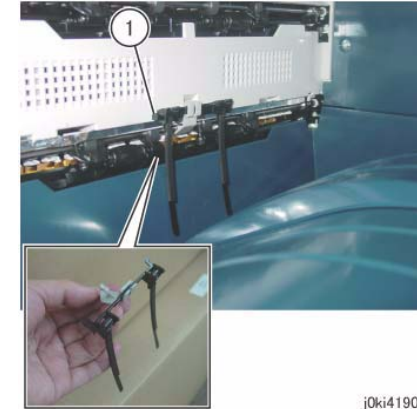

Figure 4 Remove the Paper Weight
8. Remove the Paper Weight. (Figure 4)